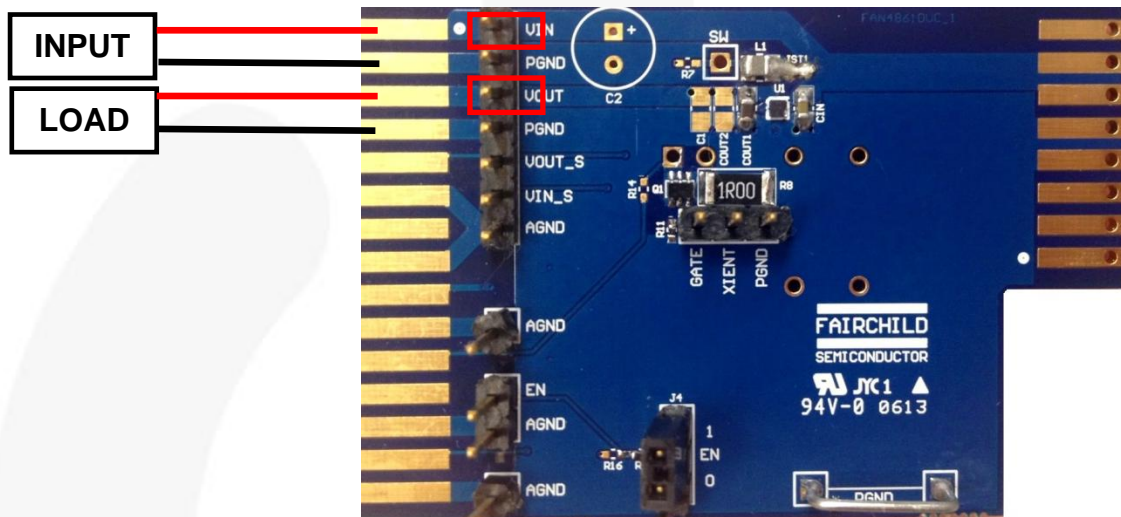

Figure 1. Evaluation Board Connection Diagram Evaluation Board Specifications
1. Connect VIN to input power supply (2.35V -5.50 V) as shown in Figure 1.
VIN\_S, VOUT\_S, and EN signals can be monitored with an oscilloscope probe at headers, as shown in Figure 1. Measure relative to AGND.